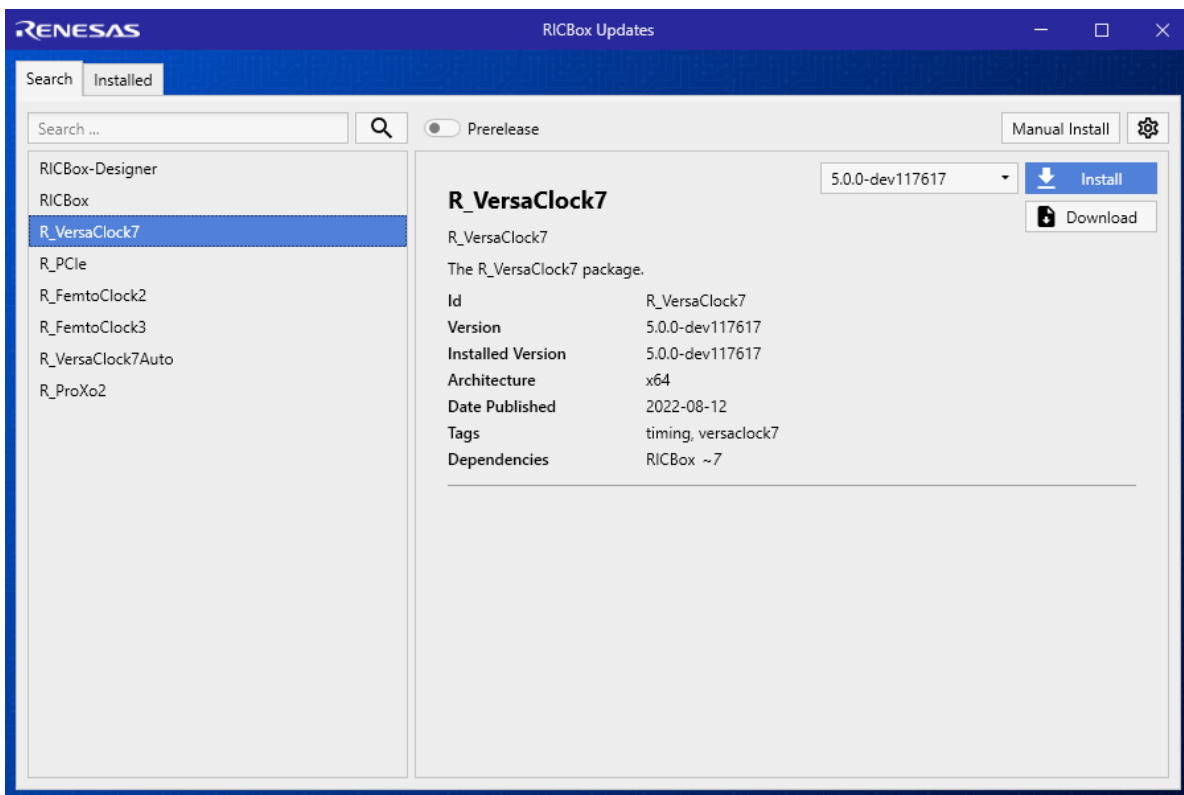

Figure 3. RICBox Updates Page
- Figure 3. RICBox Updates Page 5